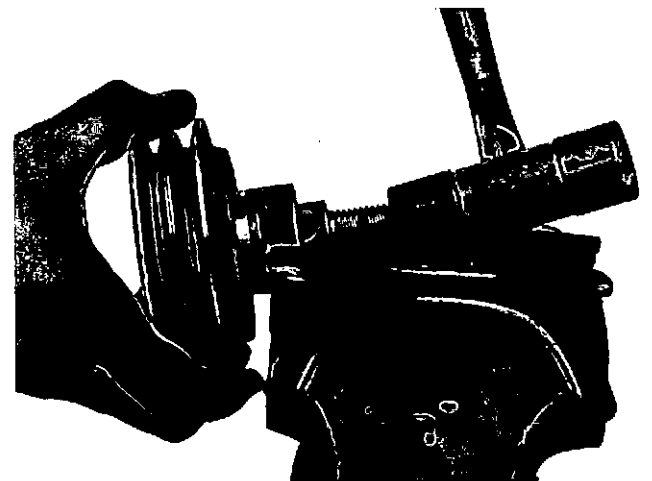

Fig. 8-39 (N10880). Remove The Pulley And Shaft From The Spacer.
9. Hold the spacer of the idler pulley assembly with a vise. The jaws of the vise must have copper plates to prevent damage to the spacer. Lightly hit the shaft with a plastic hammer to push the shaft from the spacer, Fig. 8-39.